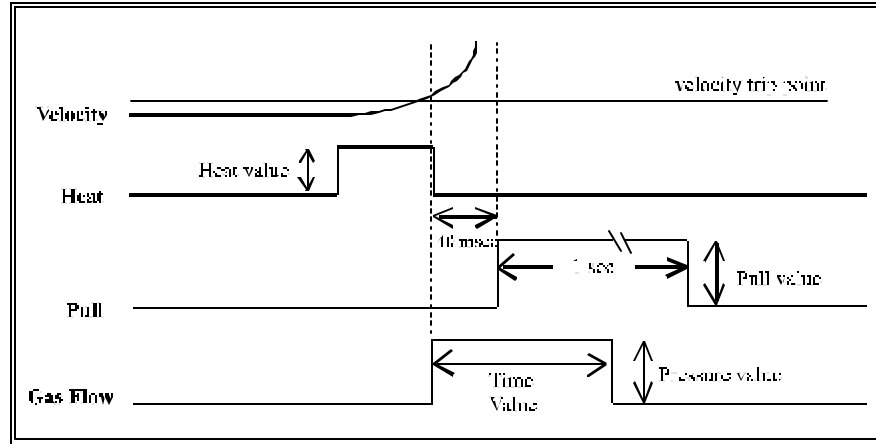

Figure 10. Pull Cycle when TIME > 0
4. If TIME is > 0 The hard pull (if any) is executed after a 40ms delay and the air is activated for the specified TIME (**Figure 10**).